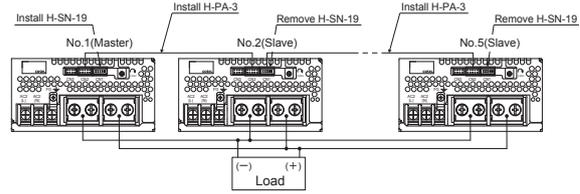

Fig.3.3 Example of parallel connection(PDA600F)
- You can use the power supplies in parallel operation by connecting units as shown in Fig.3.3. Please parallelly connect $\pm S$, VB and CB of each power supply in parallel operation and connect $\pm S$ and $\pm M$ on CN1 of the master power supply. When the power supplies are shipped from a factory, they come with a dedicated harness (H-SN-19) being mounted on CN1. Please remove the dedicated harness (H-SN-19), which is mounted on CN1 of the slave power supply, and use an optional harness, H-PA-3, to connect $\pm S$, VB and CB parallelly. Differences in the output current values among the power supplies in parallel connection are 10% at most. Please make sure that the sum of the output current values does not exceed a value obtained from the right side of the following equation.